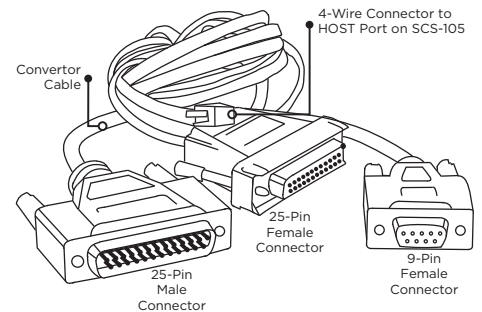

Figure 2: Cable Connectors
4. Connect the 9-pin male connector on the converter cable to the serial port on the back of the computer. Refer to Figure 2 for cable connectors.